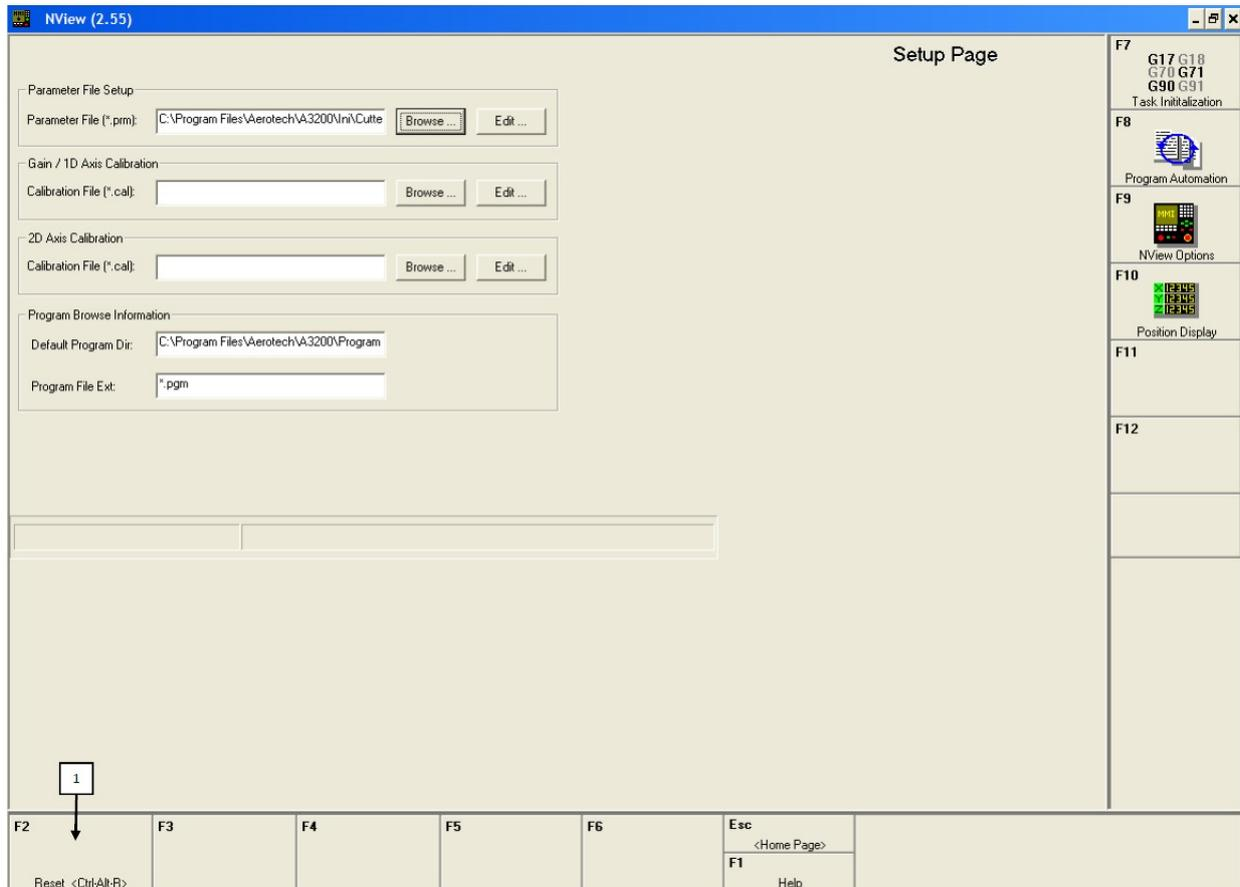

Figure 52: The NView Setup Page.
2. (Figure 52) Select the **F7 Setup** button to navigate to the **setup Page**.
3. (Figure 52) Press the **F2 Reset** button. When the system has been reset, a status window in the middle of this screen will read **Reset OK**.